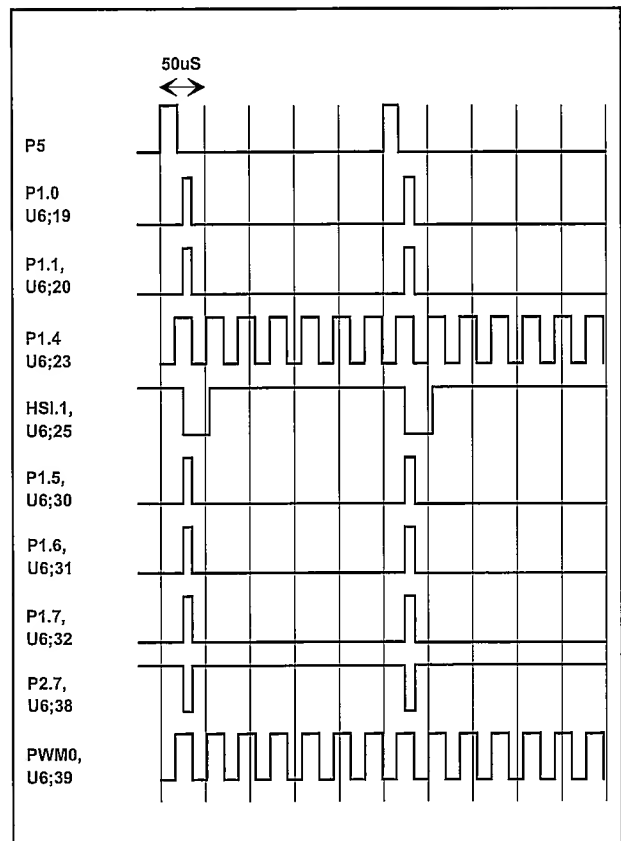

Figure 5-11 Timing diagram for μ -controller.
- The timing diagram, Figure 5-11, shows the signals generated by the stimuli program.